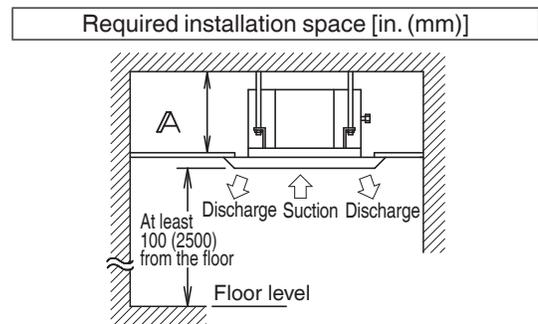

Fig. 1
- (1) Select the installation location that meets the following conditions and get approval from the customer.
- Where a space sufficient for installation and service can be ensured. (Refer to Fig. 1)